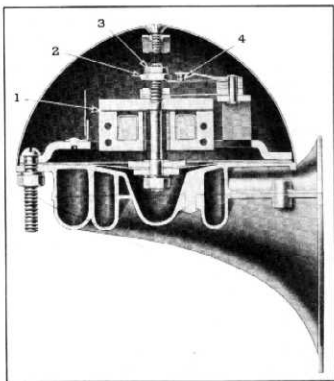

Fig. 54—Horn Cross Section
Dual, matched horns (fig. 54) are used on all passenger car models and are mounted on brackets between radiator core and grille. The horn relay is mounted on the left front fender skirt on 1949-50 models and on left front fender baffle on 1951-53 models.
- Connect ammeter in circuit at horn and adjust current flow to 17-19 amps. for high note and 19-21 amps. for low note, by varying position of adjusting nut (fig. 54).
- Loosen adjusting locknut (3) and turn adjusting nut (2) left to decrease current or right to increase current.
- Correct air gap between armature and core (1) is important for proper tone. This gap measured with a feeler should be .044"-.049" and must be uniform across the entire surface of the armature. Adjustments may be made by use of the air gap adjusting nuts.